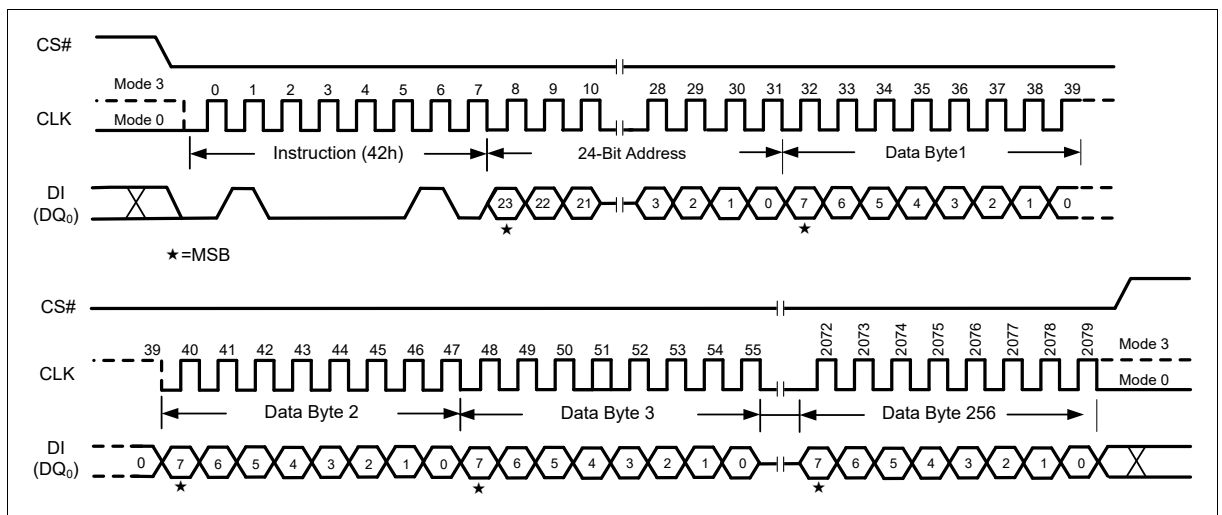

Figure 64 Program Security Sector Instruction (SPI Mode only)
The Program Security Sector instruction sequence is shown in Figure 64. The Security Sector Lock Bit (LB) in the Status Register-2 can be used to OTP protect the Security Sector. Once a lock bit is set to 1, the Security Sector will be permanently locked and Program Security Sector instruction will be ignored.